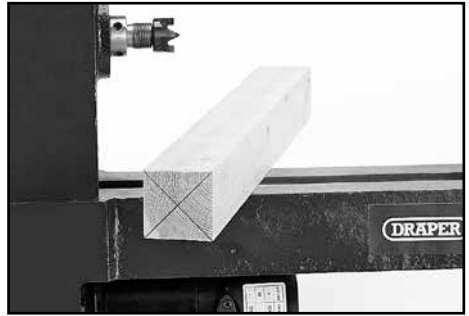

FIG. 7
10.1 SPINDLE TURNING – FIGS. 7 – 10
Select a piece of wood 50x50x300mm (approx.) Draw diagonal lines on each end the piece of wood to locate the centres (Fig.7).